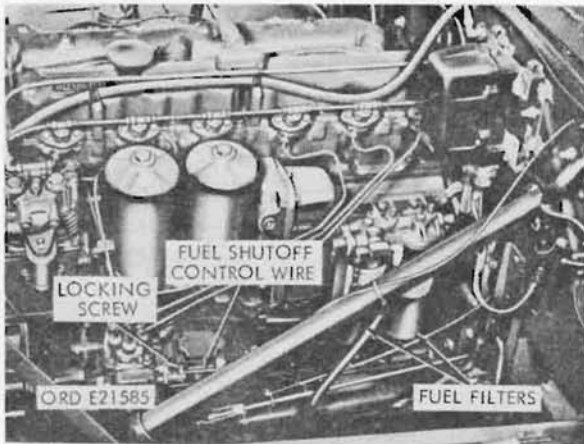

Figure 123. Engine low pressure fuel lines and fittings.
d. Fuel Shutoff Valve Adjustment. Push engine stop knob (fig. 168) completely forward on the instrument panel. Loosen the locking screw on the fuel shutoff control wire (fig. 123) and adjust the wire so that the fuel shutoff valve is fully open (full "IN" position). Tighten the locking screw.
(7) Disconnect heater fuel filter inlet and outlet lines. Remove screws and lockwashers securing filter to bracket and remove ground wire and fuel filter.
(8) Disconnect electrical lead and fuel supply valve inlet and outlet lines from the heater fuel supply valve.
(9) Remove three capscrews and lockwashers securing the manifold heater fuel pump filter bracket to the crankcase. Remove the bracket with the solenoid valves attached.
(10) Remove two machine screws and lockwashers securing each fuel solenoid valve to the manifold heater fuel filter bracket.
(11) Remove fuel solenoids.
a. Removal. Disconnect the low pressure fuel line fittings at both ends and remove the fuel lines (fig. 123).